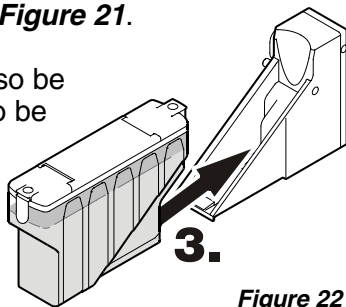

Figure 22
3. Reinsert the water tank and slide into the holder as far as it will go - **Figure 22**.